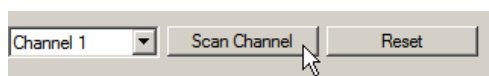

Figure 26: LINX Configurator software, scan DALI Channel.
2. Select the DALI channel and click on the **Scan Channel** button shown in Figure 26.